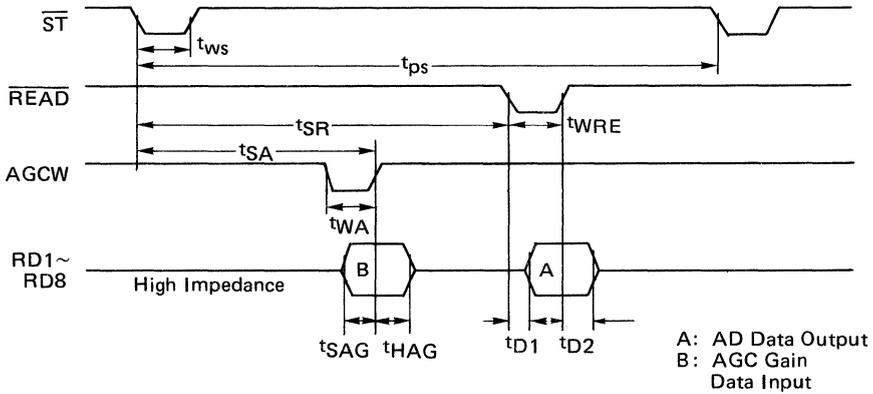
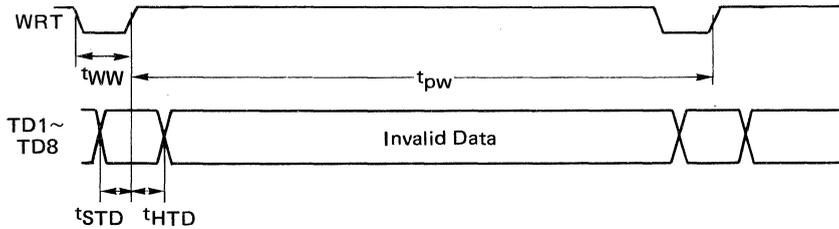

Figure 2-1 Receive Data Timing Chart
Figure 2-2 Transmit Data Timing Chart
**NOTE)** Figure 2-1 and Figure 2-2 show the timing when transmit data is input to the chip via TD1 through TD8.